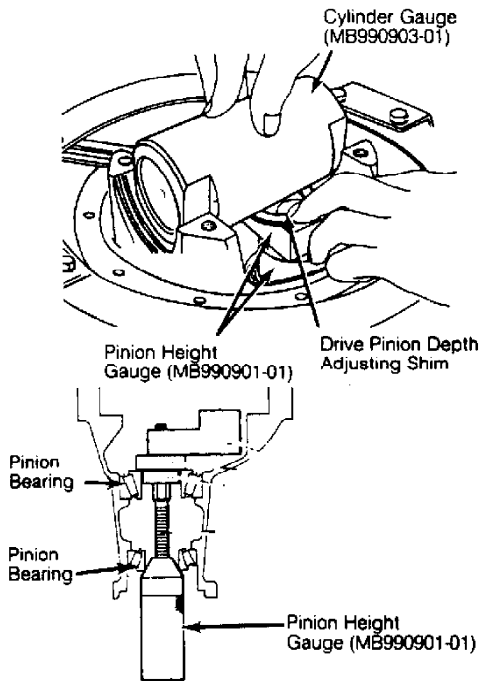

Fig. 4: Setting Pinion Depth
2) Install Pinion Height Gauge (MB990901-01) and pinion bearings. See Fig. 4. DO NOT install oil seal. Using INCH lb. torque wrench, measure pinion rotating torque. Gradually tighten pinion height gauge to increase rotating torque to proper specification. See PINION ROTATING TORQUE SPECIFICATIONS table.
3) Install Cylinder Gauge (MB990903-01) in side bearing seats. Ensure flat areas are aligned and gauge contacts side bearing seat firmly. See Fig. 4.